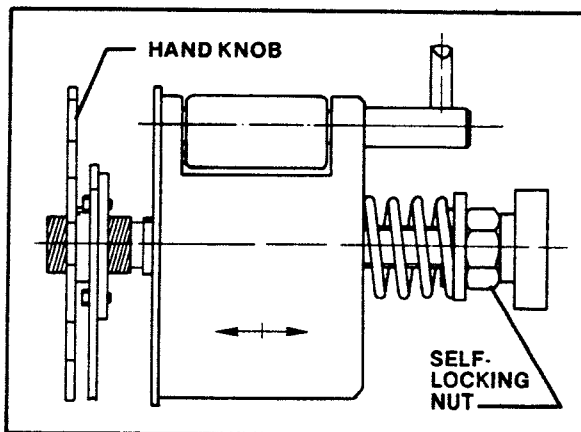

FIGURE 26
- 1) FRICTION BRAKE - Refer to Figure 26.
- a) Loosen jam nut or hand knob (figure 26) behind tape drum on tape drum shaft.